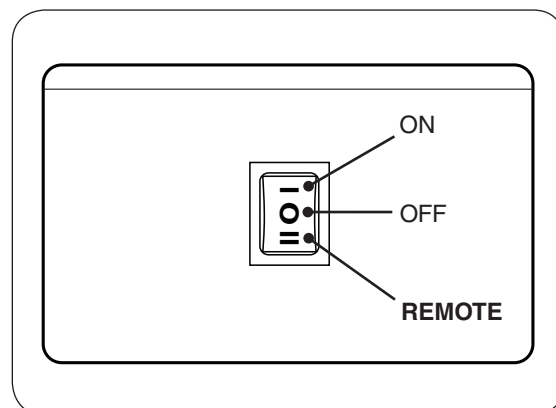

Fig. 11-1 Switch box, switch detail
1. Locate the 3-position switch on the switch box (see Fig. 11-1). Press the switch to the **REMOTE** position.